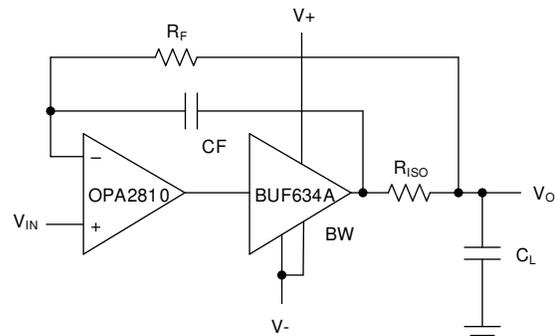

Figure 3. Resistive Isolation from Heavy Capacitive Loads in Composite Loops
- It is recommended to place an isolation resistor on the output of the buffer to provide adequate phase margin and stability when driving multiple DUT inputs with high capacitive load. This is illustrated in Figure 3.